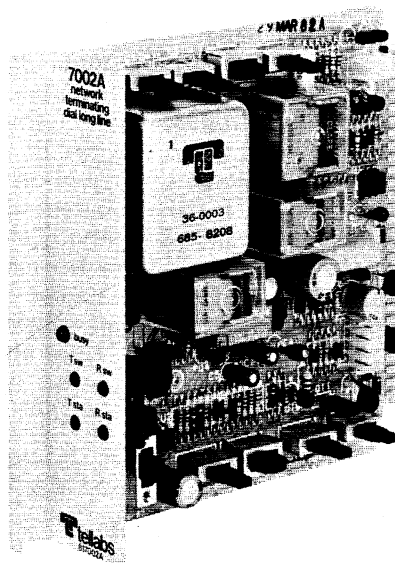

figure 1. 7002A Network Terminating Dial Long Line module
1.01 The 7002 Dial Long Line module and the 7002A Network Terminating Dial Long Line module (figure 1) each regenerate signaling and supervision to increase the range of a **loop-start** or **ground-start** CO or PBX line circuit in applications where a station served by a metallic facility is located beyond the normal range of the switching equipment. An integral repeat coil extends a separate source of locally derived loop current toward the station. On calls to the station, the 7002 or 7002A either bypasses ringing generated at the switching equipment or repeats ringing (starts and applies local ringing generator), as selected by switch option. When the station answers, the 7002 or 7002A trips ringing. On calls from the station, the 7002 or 7002A detects and regenerates off-hook states and repeats dial pulsing. Additionally, in ground-start operation, the 7002 detects and repeats the tip-ground and ring-ground states used on ground-start circuits. The two modules are functionally identical, differing only in their card-edge connector pin assignments; those of the 7002A conform to the universal wiring scheme of the Tellabs 262U Universal Network Terminating System. Thus, in the remainder of this practice, the 7002 and 7002A will be collectively referred to as the 7002(A) module in those areas where the information being given applies equally to both modules.